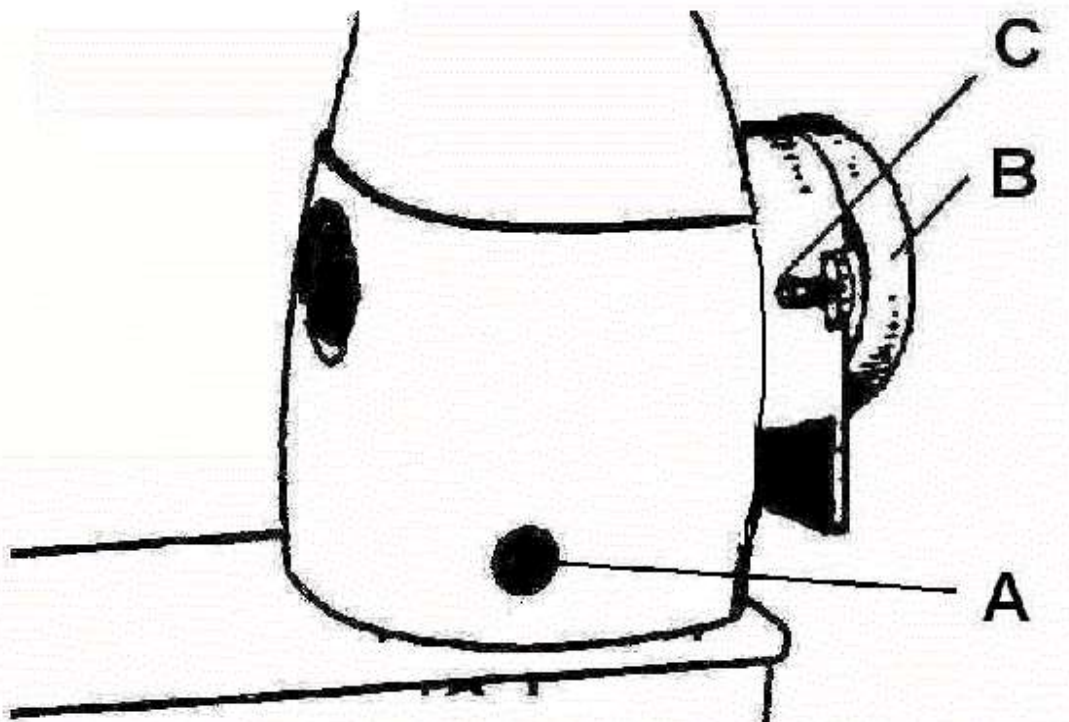

Fig. 6
Push in the stitch length adjusting knob (A) in the column of the machine arm (fig. 6) and turn the hand wheel until the knob locks deeper into the arm. Turn the knob in the direction of arrow (+) to increase the stitch length or in the direction of arrow (-) to reduce the stitch length. Adjustment is determined by the position of the tip of pointer (C) against division lines on the disk of hand wheel (B).